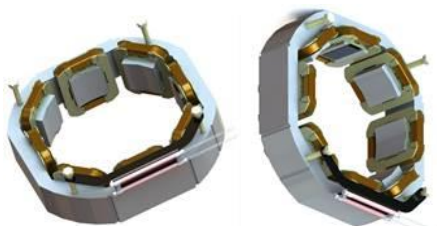
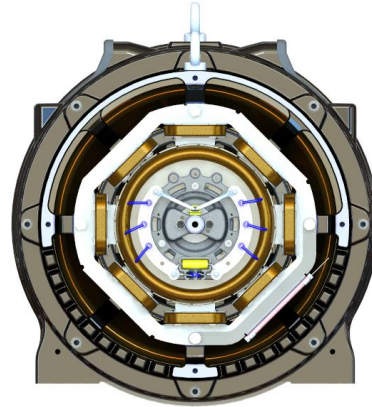

Figure 6.7: Fastening of tubular resistance
Figure 6.8: Support and tubular resistance installed in the exciter stator
5. Fasten the space heater support with the exciter stator screws, according to Figure 6.7 and Figure 6.8.